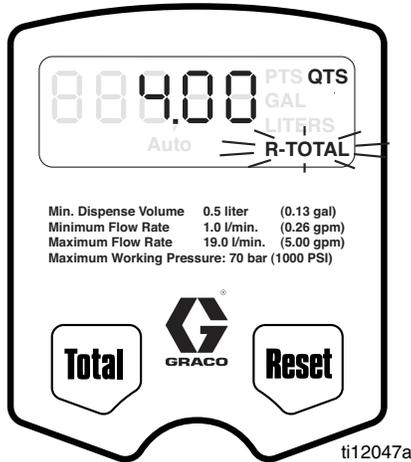

FIG. 10
3. There are three (3) Setup Menus available, stored in a preset order.
- a. The first screen displayed is the Resettable Total Menu. When this menu is displayed, R-TOTAL will blink on the screen (FIG. 10).
## Resettable Total (FIG. 10)
2. **R-TOTAL** blinks indicating you are on the Resettable Total Menu. The currently stored total and unit of measurement is displayed (FIG. 10).
- a. Press and hold the Total button. Resettable total is set to zero (0). **0 GAL/QTS/PTS** or **0 LITERS** is displayed.
- b. Press and hold the Reset button. The zero (0) total is stored. Units of Measurement Menu displays.